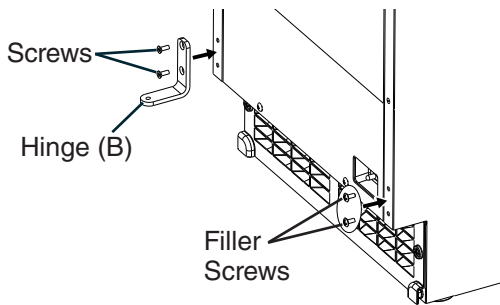

Fig. 6
- d) Remove hinge (B) from the right side of the appliance and the 2 filler screws from the left side. Attach the 2 filler screws to the right side and attach hinge (B) to the left side. See Fig. 6.